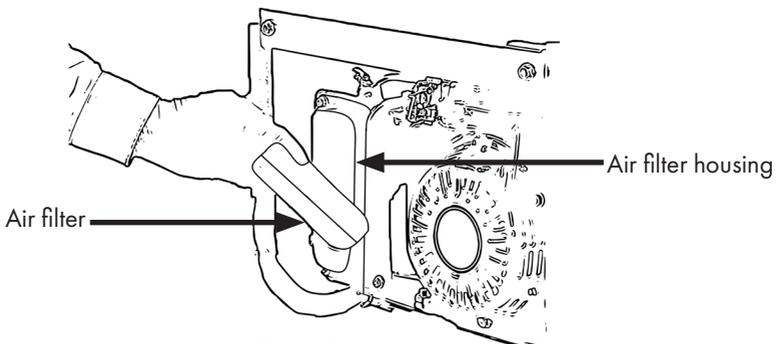

Figure 26
- Remove the air filter from the air filter housing, Fig. 26.